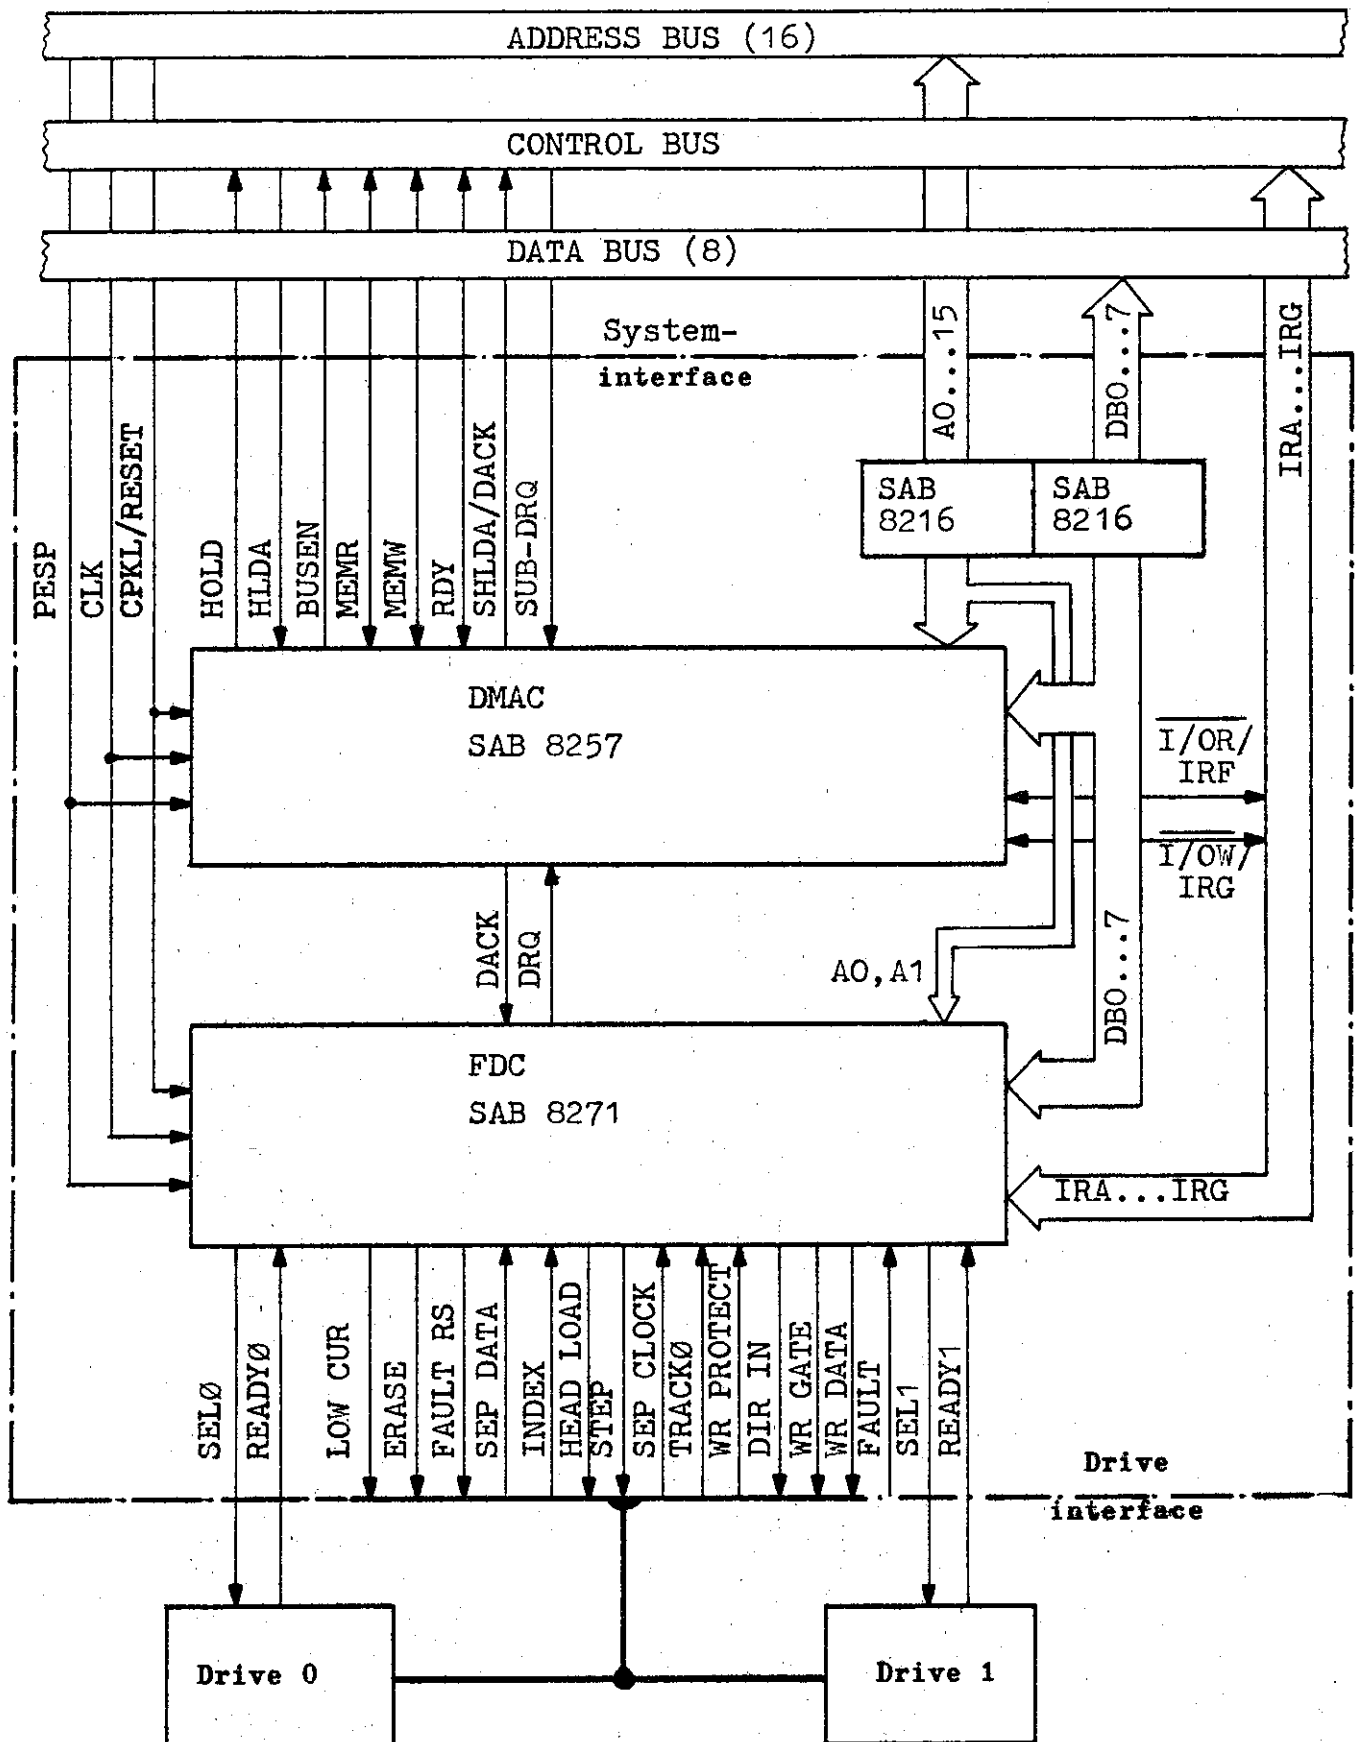

Fig. 5 Interface signals for standard drives
3.2 Interface signals (Figs. 5 and 6)